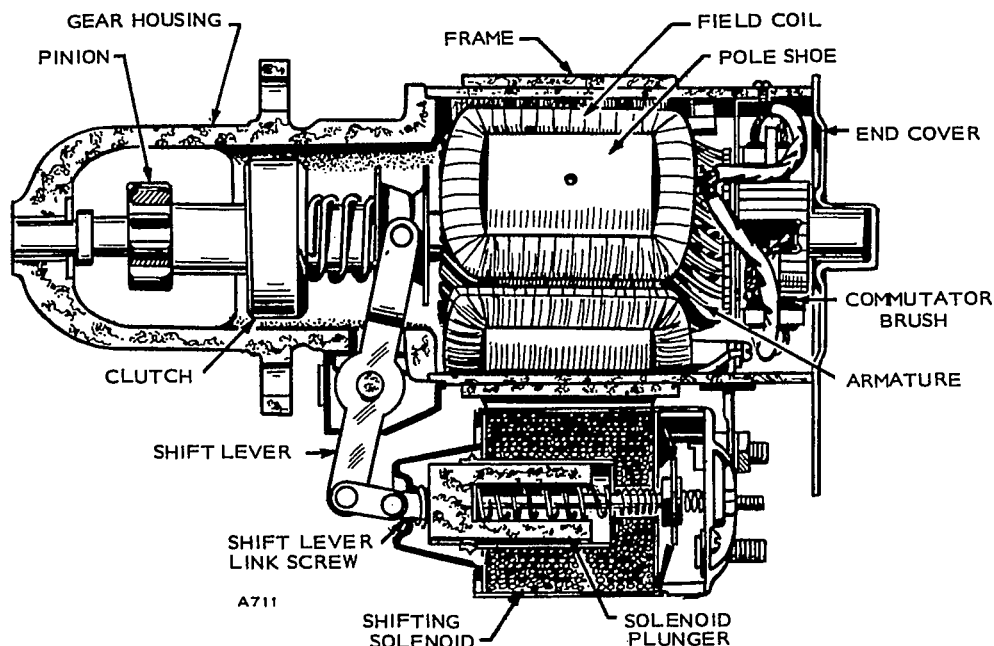

FIGURE 59. PRESTOLITE STARTER
1. Remove electrical connections to control box and battery at the shifting solenoid, Figure 59. Remove the engine front air housing and remove the flywheel.